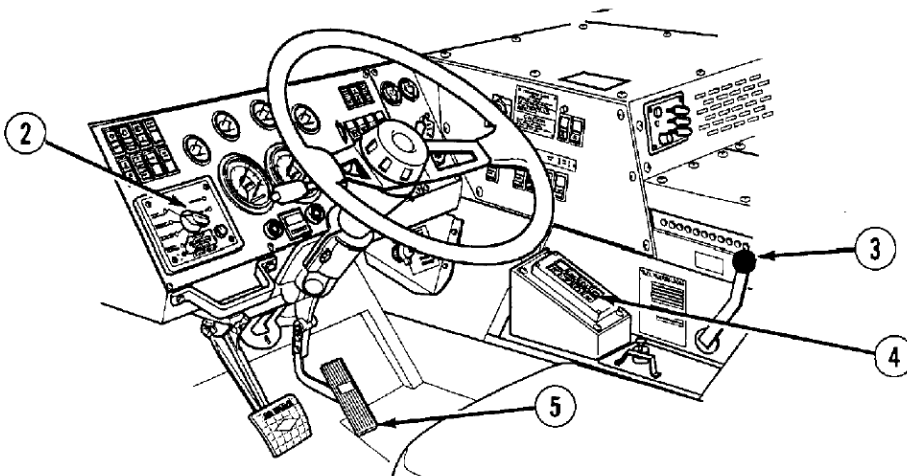

Figure 12. 7 Transmission Controls
12.3.1.3 Set the Centralized Tire Inflation System (CTIS) switch (Figure 12. 7. (2)) to the desired position.
12.3.1.4 Set the transfer case shift lever (Figure 12. 7. (3)) to **LO**.